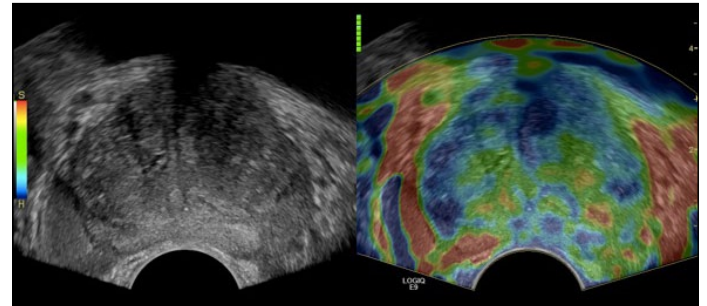

**Figure 3B.**
Measurements can be made to further help the utility of this technique. The Dual Trace tool gives the operator the ability to trace the contour of the lesion in B-Mode. The system automatically shows the same trace line on the elastography image showing the difference between the lesion size depicted in the two modes. (Figure 3A). The ability to measure independently the size of the lesion both in the ROI elastogram (A) and in B-Mode (B) and calculate the A/B Ratio of the two measurements (Figure 3B) can help the study of the suspicious area. Referring to literature,2 it seems that the interaction between a lesion and surrounding tissues could lead to either a wider or smaller color depiction in the elastogram than in B-Mode, due to changes in anatomy elasticity.